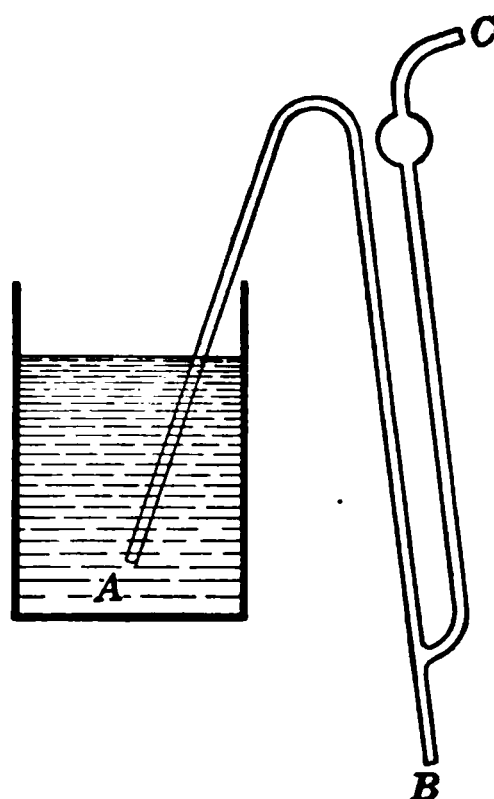

FIG. 70. — Aspirating siphon.
8. The *aspirating* siphon is used with corrosive liquids. Study Fig. 70, and then tell how you would fill such a siphon with liquid to start its action. •